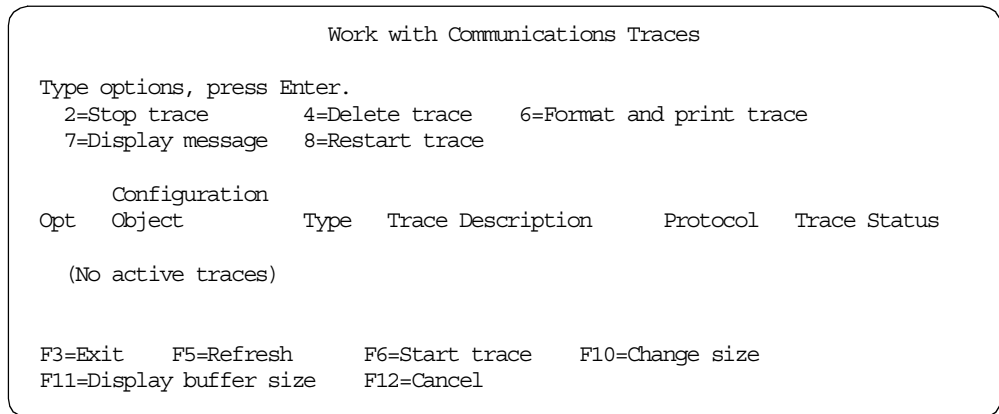

Figure 404. System Service Tools (SST) display: Option 3
3. Enter option 3, Work with communications trace. The display shown in Figure 404 appears.